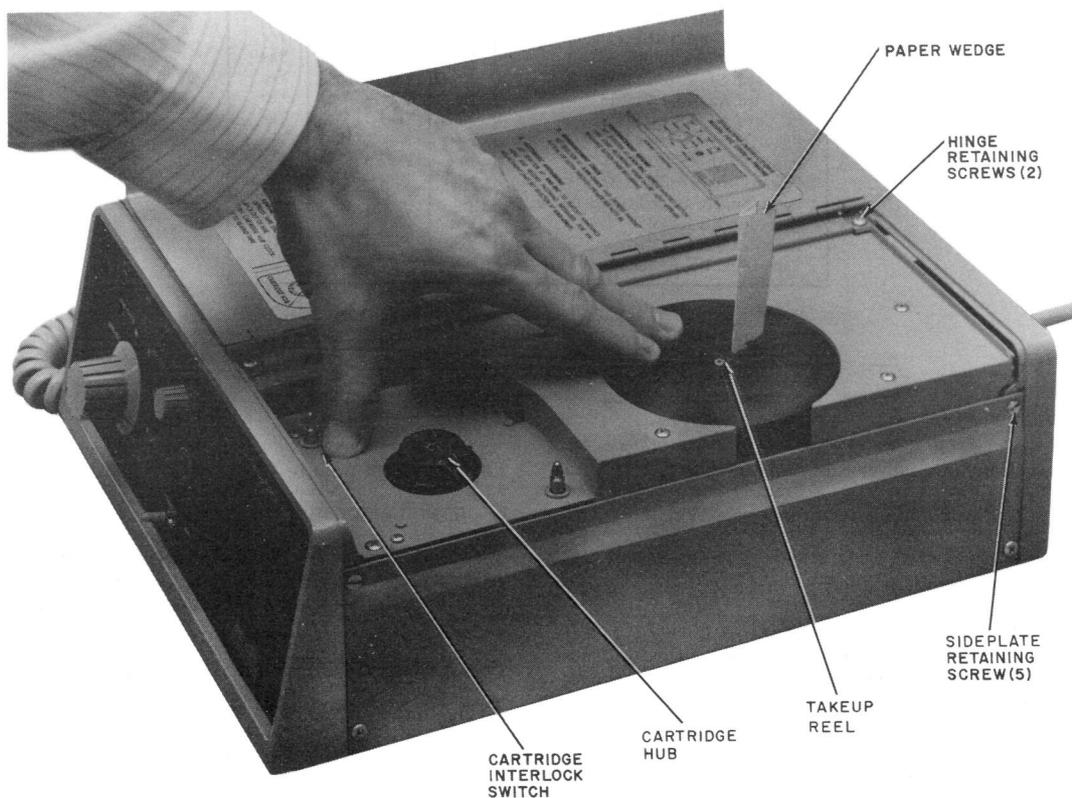
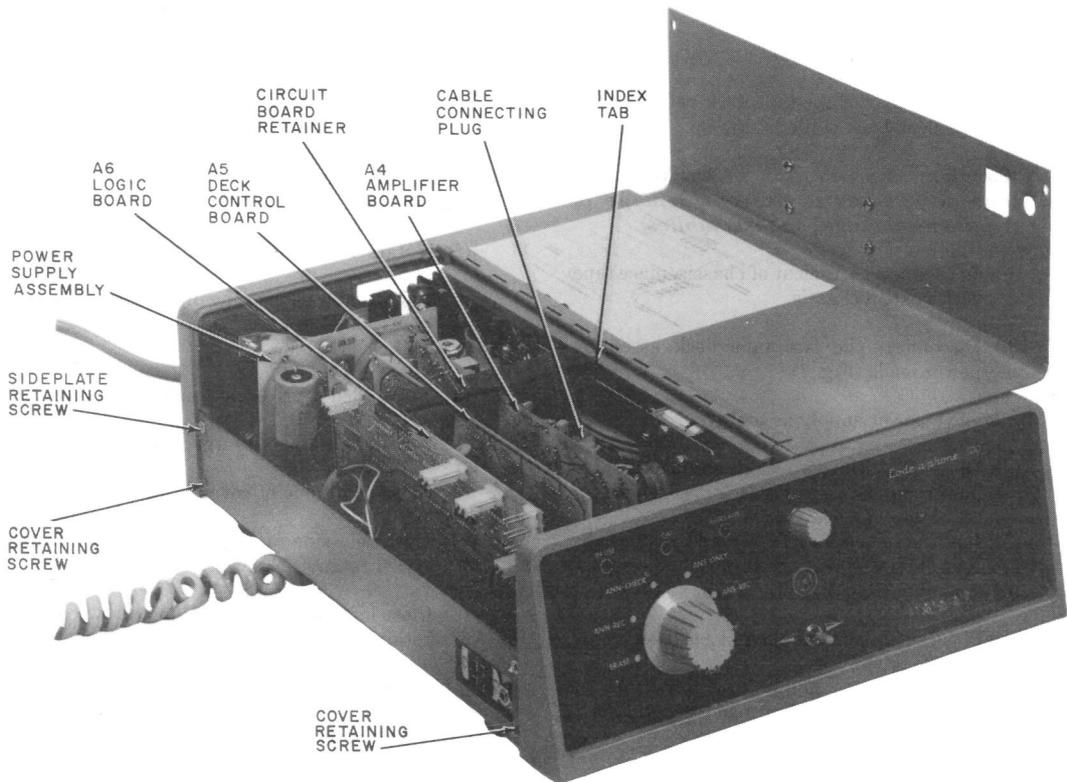

Fig. 3—Resetting "0" Registration on Message Indicator Dial
Fig. 4—Top Cover Removed, Internal View of Components
- (7) Remove power cord from ac outlet.
- (8) Check options for proper selection.
- (9) Check that A4, A5, and A6 circuit boards are properly installed.
- (10) Check that cable connecting plugs for power supply and tape deck (Fig. 7) on the interconnect board and the cable connecting plug on the A4 board (Fig. 4) are firmly in place.
- (11) Replace circuit board retainer, left side cover and reinsert ac power cord.
- (1) Manual method (Fig. 3).
- (2) Rapid rewind method (Fig. 3).
4.01 Plug-in Circuit Boards (A4, A5, and A6; Fig. 4).
(1) Remove top cover (Fig. 4).
- (d) Remove two hinge retaining screws (Fig. 3).
- (2) Remove tape deck.
- (a) Remove cable connecting plug for A4 circuit board (Fig. 4).
- (g) Install cable connecting plug for A4 (Fig. 4).
- (6) Install cover.
- (b) Install two hinge retaining screws (Fig. 3).
- (d) Open left side of cover and install circuit board retainer (Fig. 4).
- (3) To install cartridge (Fig. 3).
(1) Broken or entangled message tape should be replaced with a new KS-19245, List 6 cartridge. If necessary reset message indicator dial to 0 (paragraph 3.01).
(2) To recover recorded messages on broken tape, splice broken tape ends using splicing tape and tools obtained locally. After splicing tape, message indicator dial should be reset to 0. After messages are recovered tape cartridge should be replaced (paragraph 4.03).
- (a) Remove two cover retaining screws from left side (Fig. 4).
- (b) Lift cover and remove circuit board retainer (Fig. 4).
- (k) Replace the circuit board retainer making certain that all circuit boards are in the slots of the retainer and that the index tab of the retainer fits into the slot in the tape deck assembly (Fig. 4).
- (l) Close cover and install two retaining screws (Fig. 4).